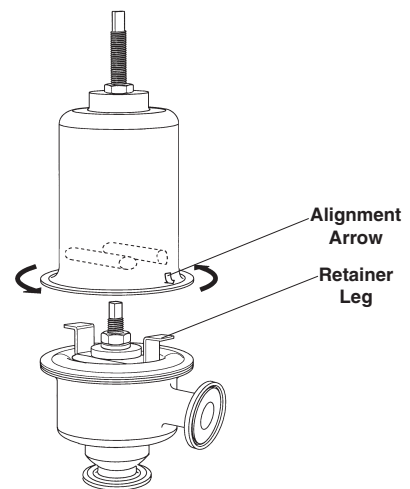

Fig. 3
3. Release spring tension by turning adjusting screw (1) fully counter-clockwise after first slackening lock nut (2).
5. Firmly hold edge of diaphragm (15) and body (14) and rotate spring chamber (3) through 90° (see Fig. 3). The arrow on the lower edge of the spring chamber can be used as a guide.
6. Remove spring chamber (3).
7. Remove spring pusher (4) and spring (5).
8. Holding flat section at top of main valve (13) with a wrench, remove diaphragm nut (6) and spring washer (7).
- 9.* Remove spacer ring (8), retainer (9), upper disc (10), diaphragm (15), and lower disc (12).
10. The main valve (13) can be removed through the regulator inlet.
11. Inspect valve head and seat. Re-lap or replace main valve (13) if necessary.
12. Inspect diaphragm (15) for wear and replace if necessary.
- a. Lower disc (12) has chamfered edge on the central hole to allow a seal to be made with the diaphragm (15) and main valve (13). ENSURE THAT UPPER (10) AND LOWER DISCS (12) ARE NOT TRANSPOSED, AND THAT BOTH ARE INSTALLED WITH ROUNDED EDGE FACING DIAPHRAGM.
- b. When spring chamber is replaced, line up arrow so that it is directly in front of one of the legs of the retainer (9) - see Fig. 3. Firmly hold diaphragm edge (15) and body (14) and rotate spring chamber (3) through 90°. This locks the diaphragm restraint in place and will prevent over-extension.
* Valves marked with dual range (circa 5/94) may have upper discs (10) and lower discs (12) measuring 1.75" in diameter. To accommodate the current diaphragm design, the discs should measure 1.25" in diameter. Replacement discs for valves that use the 1.75" diameter discs are available by contacting the factory.